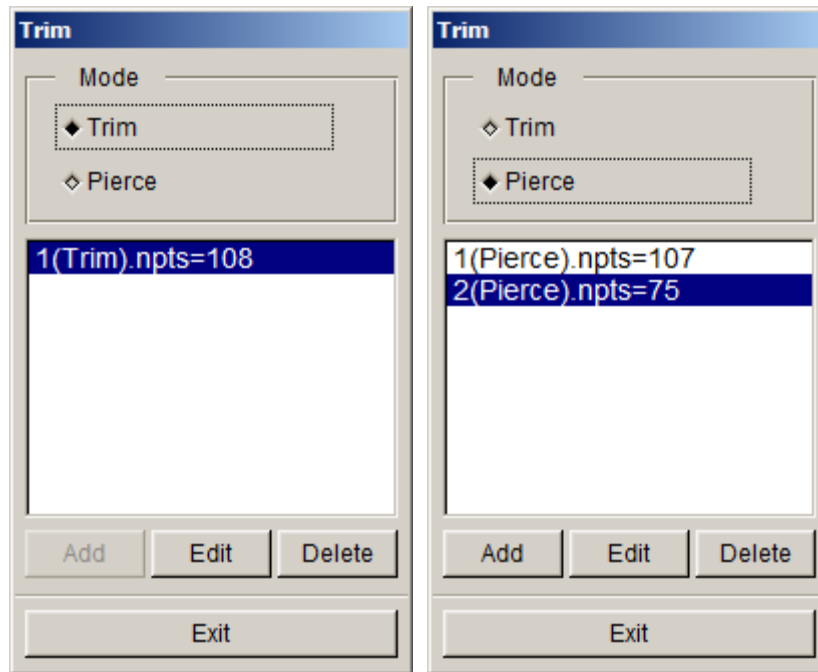

Figure 7.6.27 Trim and Pierce
Trim (0) This function is used to define a group or groups of curves for Pierce and Trim operation, and the setup interface is illustrated in Figure 7.6.27.